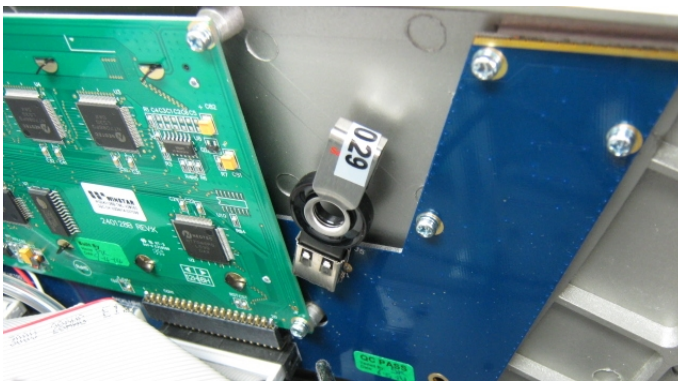

Figure 8 – Installation of USB Memory Stick
1. Open the lid and ensure the USB memory stick is installed (refer to Figure 8).
7. Remove the USB memory stick and pack with instrument (refer to Figure 8)